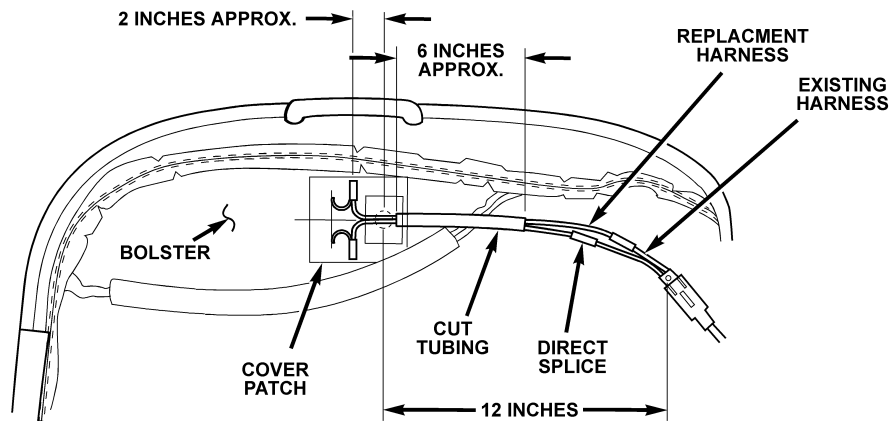

Figure 5
12. The new harness will plug into most of the existing seat harnesses. Some vehicles utilized a red insulator, which is keyed differently than the green insulator provided on the new harness. If the vehicle utilizes the red connector, it will have to be removed from the original harness and installed on the new harness using solder and heat shrink tubing as shown in Figure 5. Be sure to stagger the splices as shown.